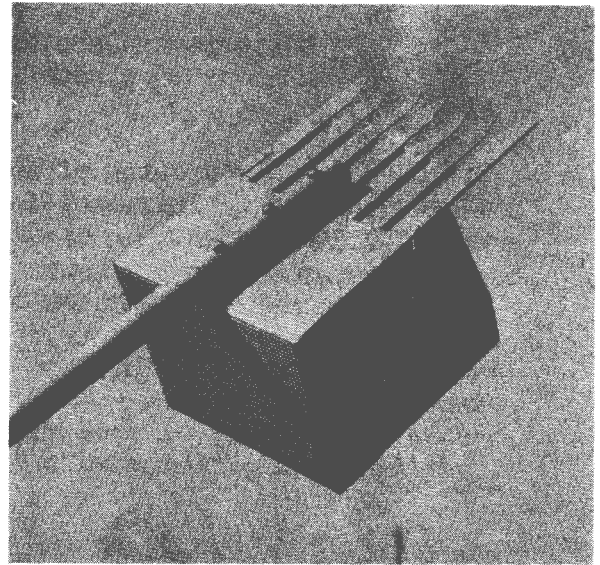
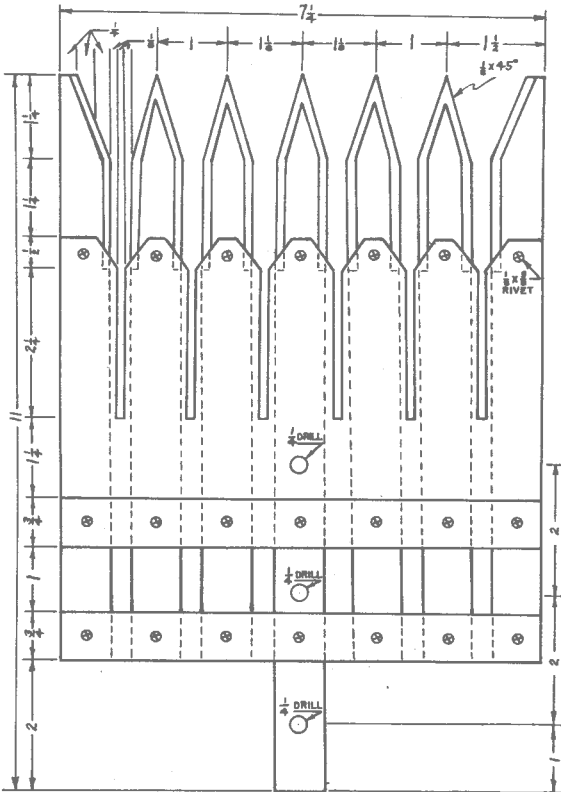

Figure 2. Collecting can showing detail of tabs and pole.
Figure 3. "Inside" plan view of the tine-cutter subassembly. (Dimensions are in inches.)
- a. Cut one 11-inch and six 9-inch bars from an 8-foot piece of 1/8-by 3/4-inch aluminum stock. Taper four of the short bars and the 11-inch piece with a hacksaw or bandsaw and file the lower side of each cut to a 45° angle. The two remaining bars, which will be the outer guides of the tine, assembly., should be cut and beveled on only one edge (fig. 3).^{1/}
- c. Cut a 4-by 72 inch piece of aluminum sheet. Cut seven 1/8by 2-3/4-inch slots in this piece to form the cutting edges (fig. 3). Snip the ends of the cutters to harmonize with the angles of the tines.
- d. Drill 1/8-inch holes in the tines and tine braces, as indicated in figure 3. The cutters must also be drilled as indicated to receive the rivets, which will fasten them to the tines. In addition, drill three 1/11-inch holes in the 11-inch tine, as shown. During final assembly, drill four 1/8-inch holes in the outside edges of the tine guides to receive the rivets joining the tines and the can. (Location of these rivets can be seen in figure 2.) Postponing the drilling of these four holes will help to allow for error in folding the can.
- f. Next fold top along line C-C¹ and back along line B-B¹ at 90° angles. A five-sided box will thus be formed. The tabs of the back should be on the outside of the sides, and the tabs of the top should be on the outside of the back tabs (fig. 2).